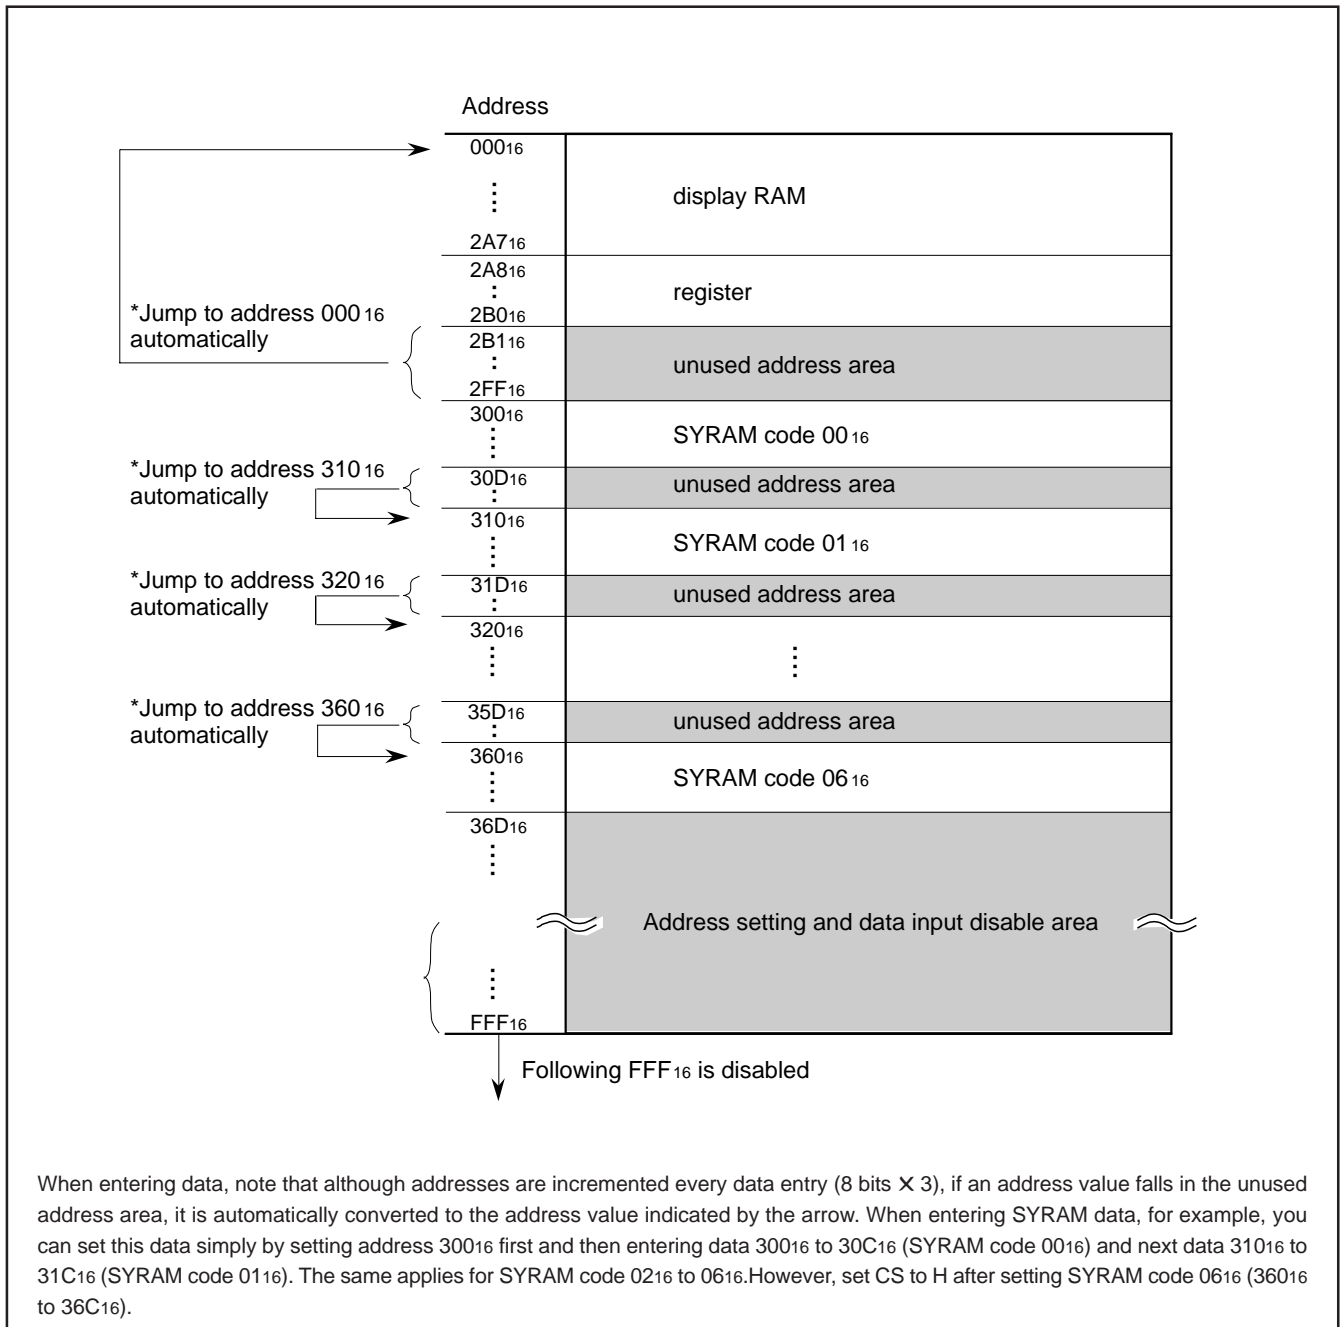

Fig. 12 Address construction
- (1) The address consists of 8 bits × 3.
- (2) The data consists of 8 bits × 3.
- (3) The 8 bits × 3 in the SCK after the \overline{CS} signal has fallen are the address, and for succeeding input data, the address is incremented every 24 bits (8 bits × 3). Refer to Fig.12 about detail for address increment.